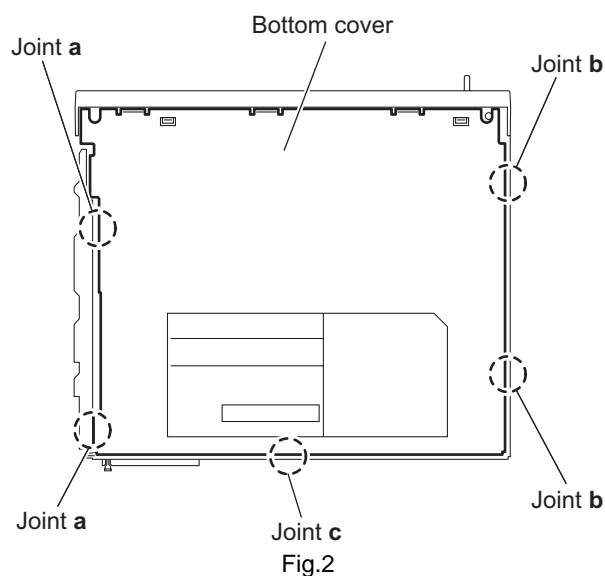

Fig.2
3.1.2 Removing the bottom cover (See Fig.2)